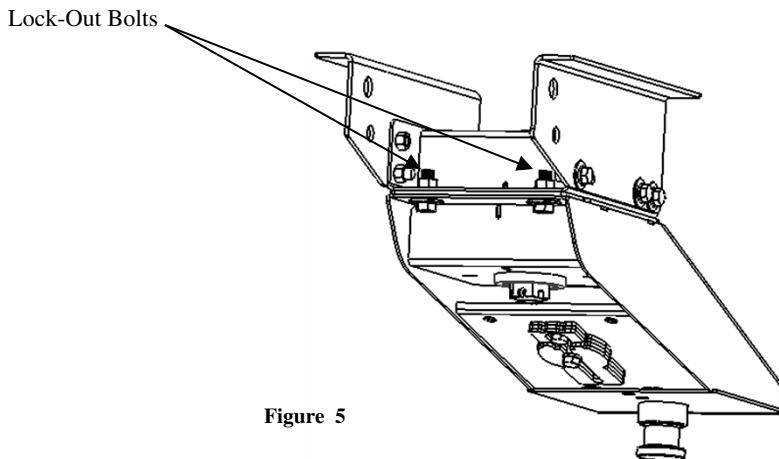

Figure 5
The Sidewinder™ Pin-Box is very versatile and can be used as a standard pin box – Conventional Transport. For conventional transport (2) 3/4" GR 5 Bolts and Hardware are installed in the back of the unit (figure 5), on OE applications these come installed from the factory and may or may not have been removed by the dealer. The two bolts prevent rotation and allow use of the pin-box without the wedge installed.
1. Remove (2) 3/4" Lock-Out bolts and hardware from the rear of the pin-box (figure 5). You can store them in the holes pointed to. (figure 6)
2. Remove the universal wedge from it's storage location by removing (2) 5/8-11 X 1 3/4" bolts and lock washers.